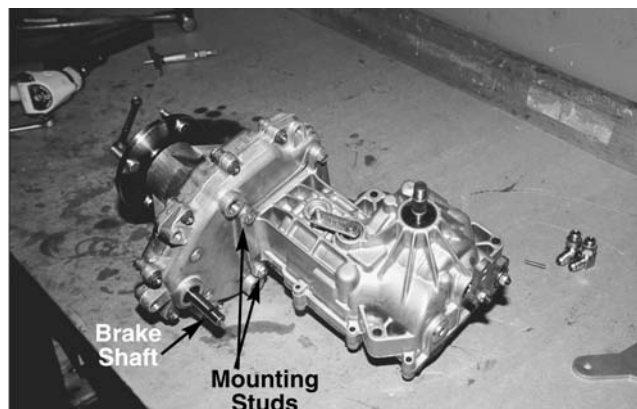

Figure 10-74.
34. Align the studs with the transmission, and be careful not to push the studs into the transmission, mate the two halves together. See Figure 10-74.